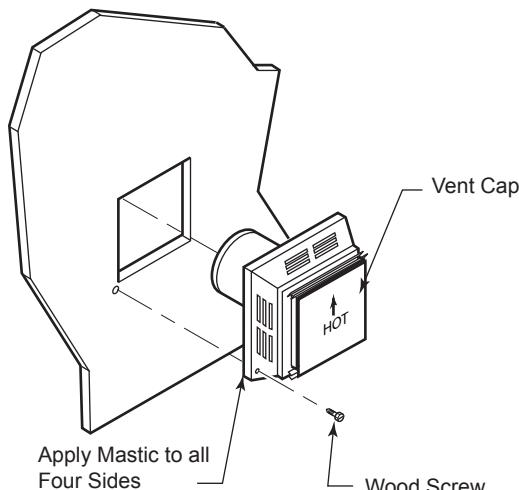

Figure 22 -
- Apply a bead of non-hardening mastic around the outside edge of vent cap. Position the vent cap in the center of hole on the exterior wall with the word "UP" on the vent cap facing up. Insure proper clearance of 1" to combustibles is maintained. Attach the vent cap with four (4) wood screws supplied. *Figure 22*